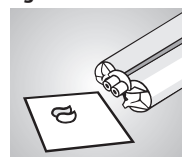

Fig. 3
Cartridge material is extruded using the Automix2-System dispensing gun (Fig. 2). After inserting cartridge into dispensing gun, unscrew cap and carefully extrude a small amount of material to insure proper flow from both ducts (Fig. 3). Attach mixing cannula by aligning notched side to cartridge and turning clockwise until fastened (Fig. 4). Dispenser now ready to mix silicone in any amount needed. Leave mixing cannula on cartridge after use. Use only blue **tempofit® premium** 10:1 blue mixing cannulas!
- To ensure a homogeneous mixing: Prior to insert the mixing cannula, **always** eject a small amount of material to ensure extruding **equal amounts** of base and catalyst from **both orifices** (Fig. 3).